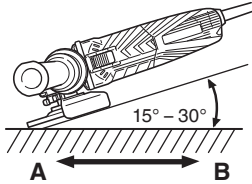

Fig. 4
Do not apply the entire surface of the depressed center wheel to the material to be ground. As shown in **Fig. 4**, the machine should be held at an angle of $15^\circ - 30^\circ$ so that the external edge of the depressed center wheel contacts the material at an optimum angle.
- To prevent a new depressed center wheel from digging into the workpiece, initial grinding should be performed by drawing the grinder across the workpiece toward the operator (**Fig. 4 direction B**). Once the leading edge of the depressed center wheel is properly abraded, grinding may be conducted in either direction.